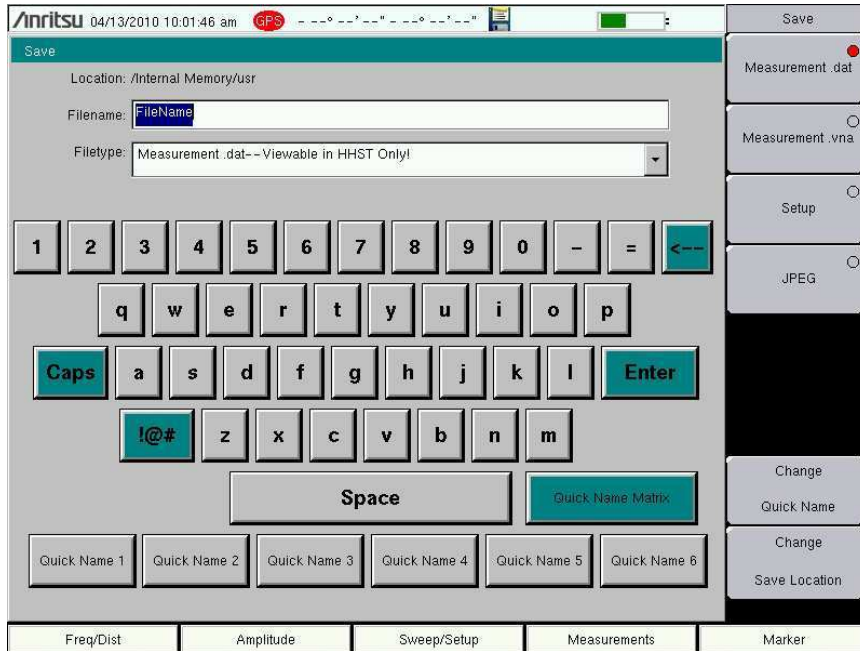
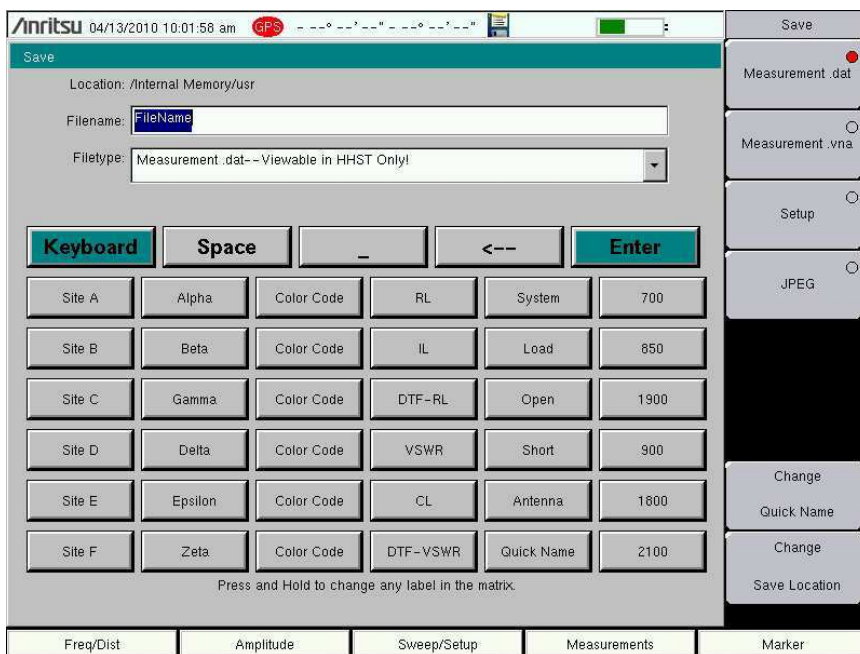

Figure 4-1. Save Dialog Box
Figure 4-2. Quick Name Matrix
The **Save Measurement As** key is used to quickly save measurements with a specific file name. The Cell Master saves the measurement with the latest file name that was used to save a measurement and with a number that is automatically incremented and appended to the end of the file name. For instance, if the last measurement was saved with the name **System Return Loss**, **Save Measurement As** saves the next measurement as **System Return Loss_#1**, **System Return Loss_#2** etc. The file name used can be changed using the **Save** dialog box (Figure 4-1).
The save dialog box (Figure 4-1) is used to store files on the internal memory or an external flash drive. The file type, file name, and save location are set at this display. See “Save Menu” on page 4-9 and “Save Location Menu” on page 4-10 for details.
Quick Name keys below the keyboard in Figure 4-1 allow users to enter quick names for frequently used file measurement names. To edit the keys, press the **Shift** key, then the **File** (7) key. Press **Save** then the **Change Quick Name** key, select one of the **Quick Names** for editing, press **Enter** and enter the new name for the key. Press **Enter** again and the new name will be displayed on the key.
The Quick Name Matrix button displays in the Cable and Antenna Analyzer measurement mode. The Quick Name Matrix button allows contractors and field personnel to save time entering file names when they are making measurements. Using the touchscreen, press the Quick Name Matrix key shown in Figure 4-1 to open the Quick Name Matrix shown in Figure 4-2.
The Keyboard key returns to the Save Dialog Box (Figure 4-1).